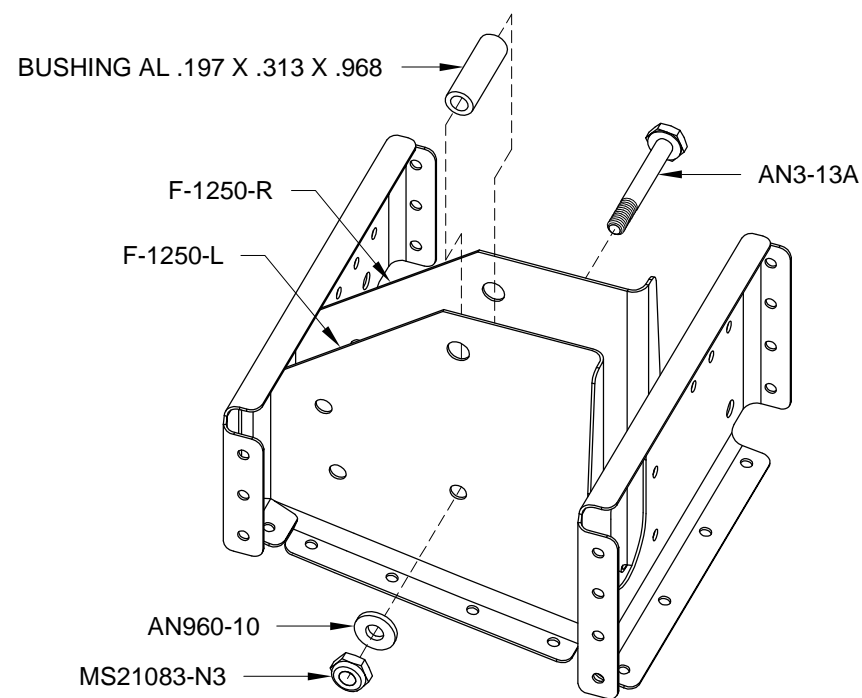

FIGURE 2: INSTALLING BUSHING
Step 2: Install the bushing shown in Figure 2 between the F-1250-L & -R Pulley Brackets using the hardware called out.